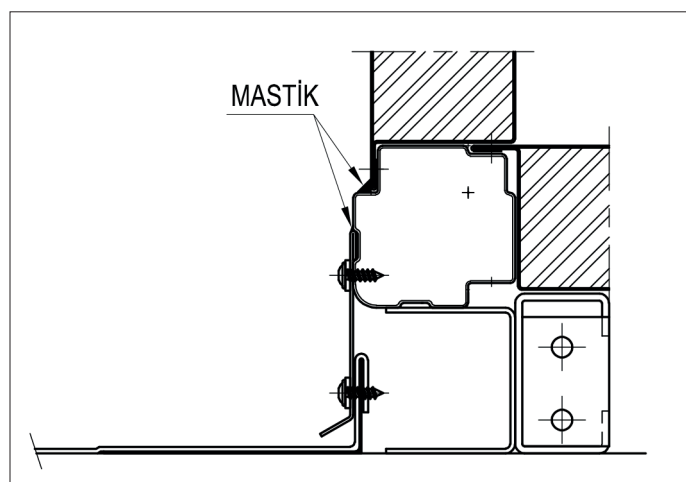

Fig. 43. Roof finish, situation C, side 4
- Directions 1 and 2: Cut the connection profiles to the correct length and mount them on the correct sides (See Fig. 43).
- Install Z-profiles over the longer base frame profile of top section as shown in Fig. 43 in this chapter. Apply roof foil over Z-profiles.